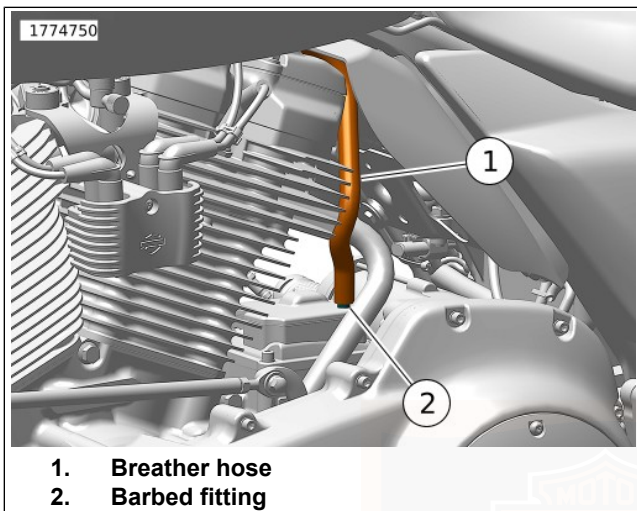

Figure 110. Breather Hose
1. See Figure 110. Pull breather hose (1) straight up off barbed fitting (2) on top of transmission.